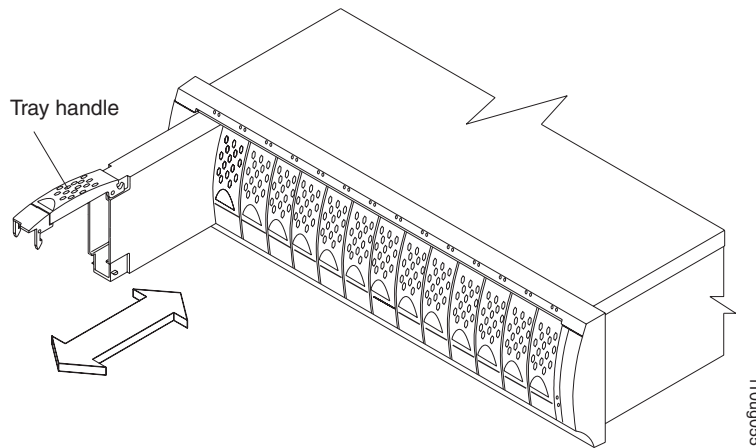

Figure 15. Removing a drive CRU
3. Pull the tray handle out so that it is in the open position to release the drive CRU. Pull the drive out of the bay, as shown in Figure 15.